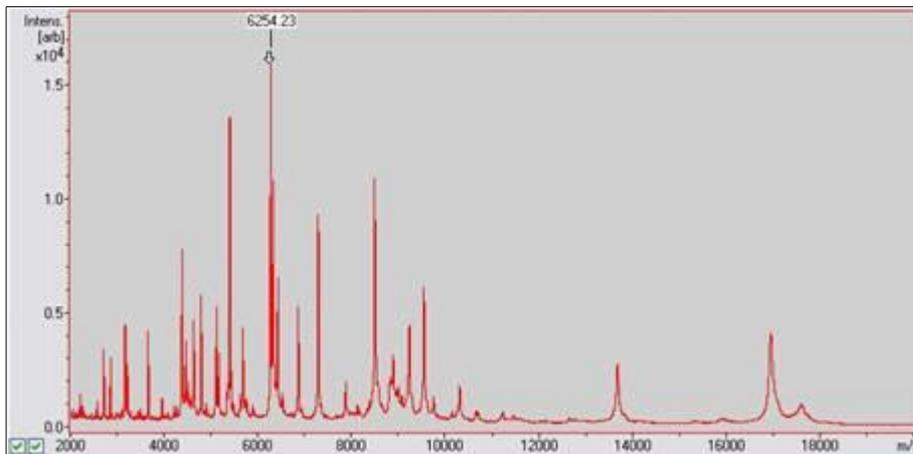

Figure 2 Smoothed sum spectrum of Bruker BTS
6. Click the **Smooth Spectrum** toolbar button  to smooth the sum spectrum (Figure 2).